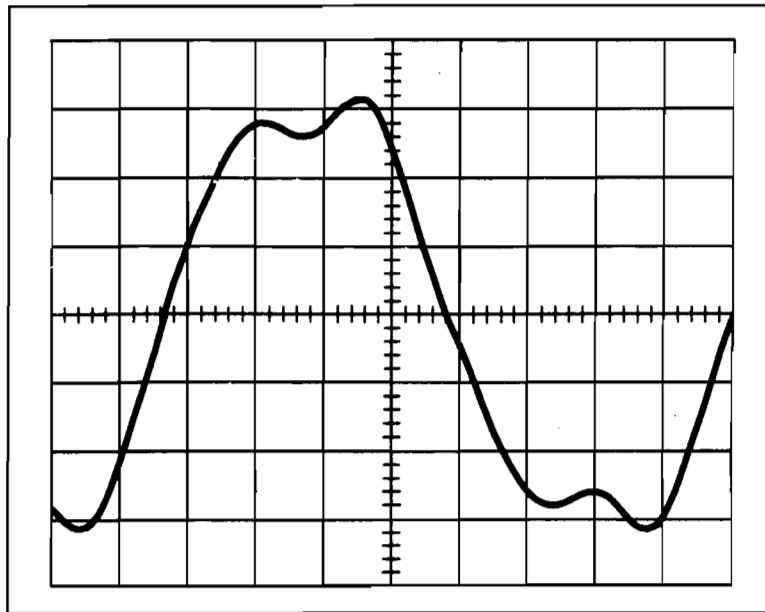

Figure 9 - Compensation Tuning (approx. 3.4kHz)
- D. Increase the oscillator frequency to approximately 3.4kHz, fine-tuning for maximum amplitude of the "double-hump" waveform shown in Figure 9 on the next page.